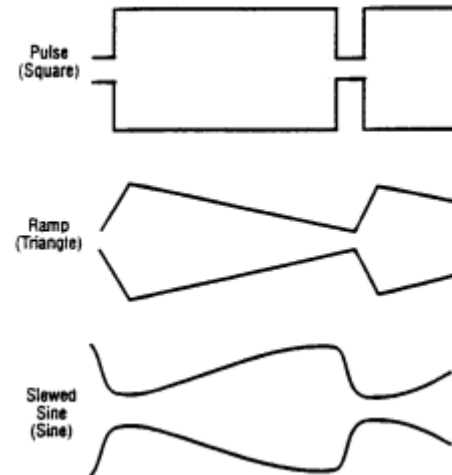

Figure 4. Effects of Symmetry Variation.
The **DUTY CYCLE** control can be used to alter the symmetry of the output waveform, to produce waveshapes such as those shown in Fig. 4. For a square wave, symmetry variation amounts to changing the duty cycle (ratio of "high" to "low" time), effectively converting the instrument into a pulse generator. For a triangle wave, the result is a ramp, and with a sine wave, a distorted waveshape called a slewed sine is produced. The Model 4012A provides for symmetry variation from 15% to 85%.
2. Engage the **DUTY CYCLE** switch (17) and adjust the **DUTY CYCLE** control (10) for the desired waveshape. Clockwise rotation from center results in an increase in square wave duty cycle, and changes the sine and triangle waves as shown in the top waveform of each pair of Fig. 4. Counter-clockwise rotation results in the bottom waveform in each pair.